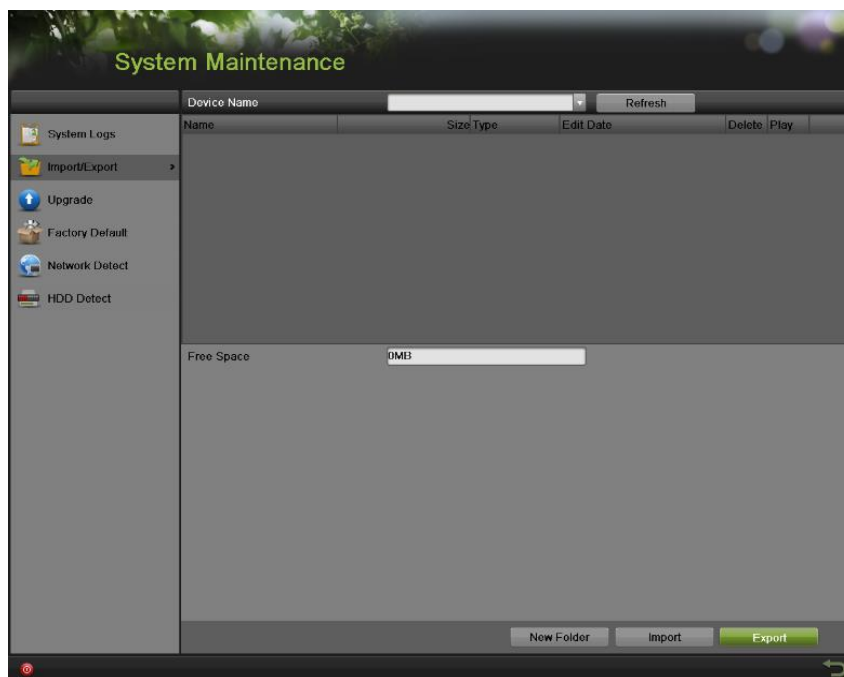

Figure 215 Import/Export Menu
1. Enter the Import/Export menu, shown in **Figure 215** by going to Menu > Maintenance > Import/Export.